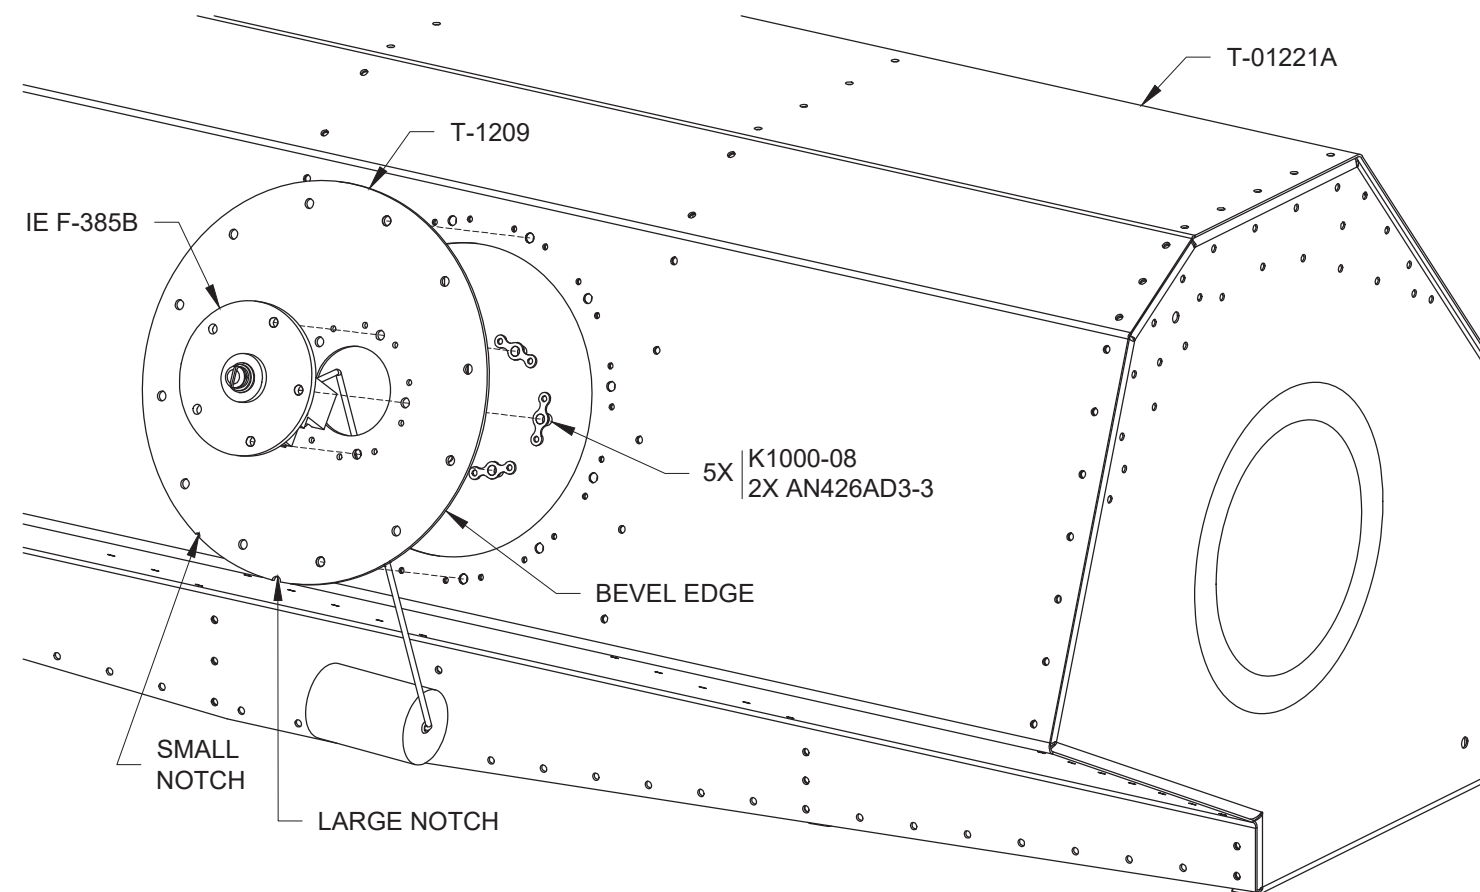

FIGURE 5: ATTACHING THE FUEL SENDER
Step 9: Temporarily attach the IE F-385B Fuel Sending Unit, the IE F-385 Gasket, and T-1209 to the T-01221A with a few screws just to hold the assembly in place. The large notch in the edge of the T-01209 is oriented directly downward with the small notch inboard. See Figure 5 and Page 26iS/U-04, Figure 1.